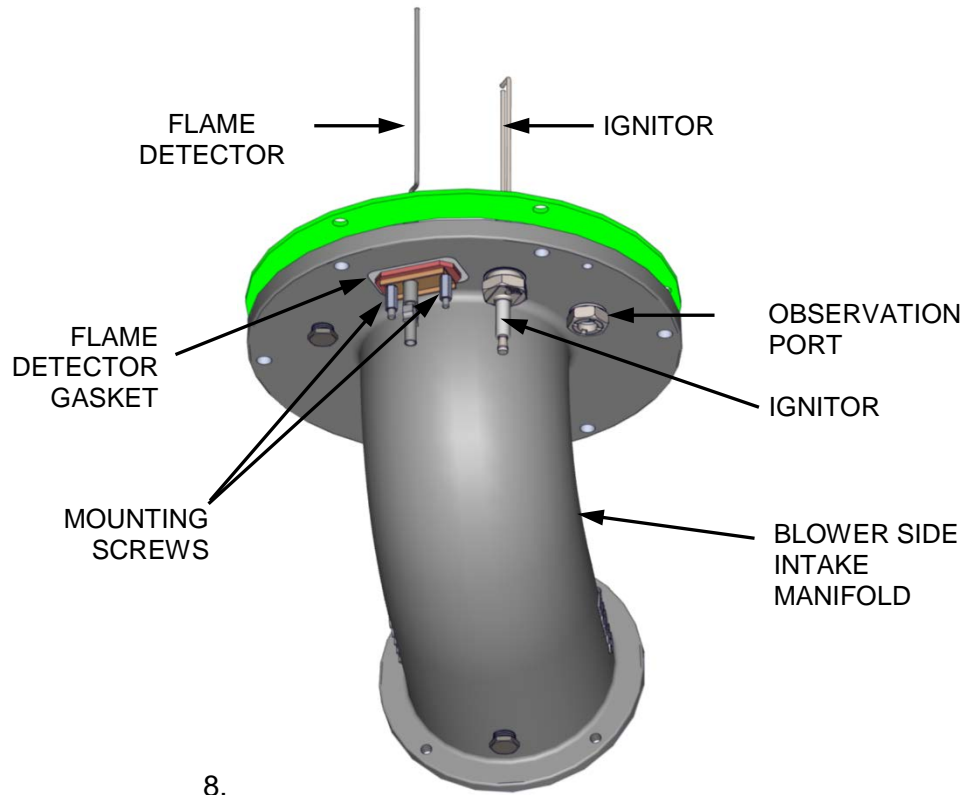

Figure 6-2. Igniter & Flame Detector Mounting Details
7. Refer to Figure 6-2 and reinstall the igniter on the intake manifold flange. Install clocking washers as needed, to ensure that the igniter ground tab is pointing outward toward the perimeter of the intake manifold flange. Torque to 15 ft-lbs. Do not over tighten.
4. Disconnect the lead wire from the flame detector installed on the intake manifold flange (Figure 6-2).